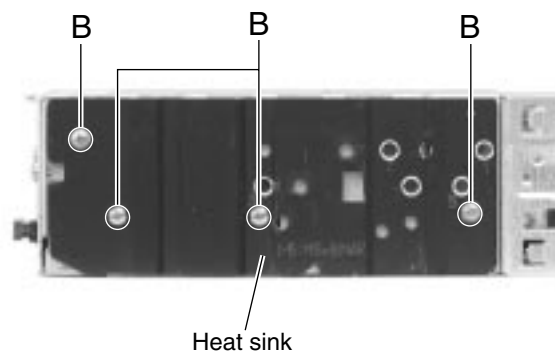

Fig. 5
■ Removing the heat sink (See Fig.5)